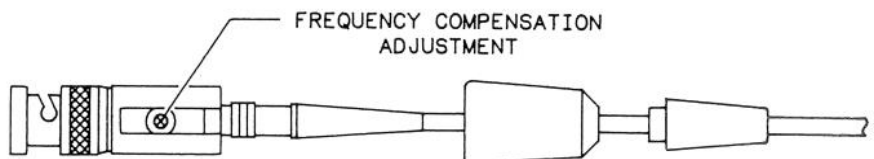

Figure 4. Frequency Compensation Adjustment Location
5. Use the supplied trimmer adjusting tool to adjust C1 for flattest possible pulse top. See figure 4 for location of C1.